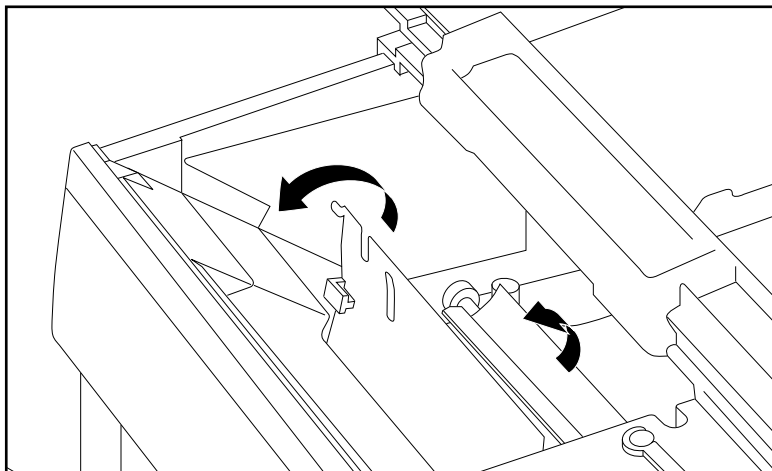

Fig. 10.6 Open the Paper Access Door
3. Open the paper access door by pulling the green lever on the left (fig. 10.6).